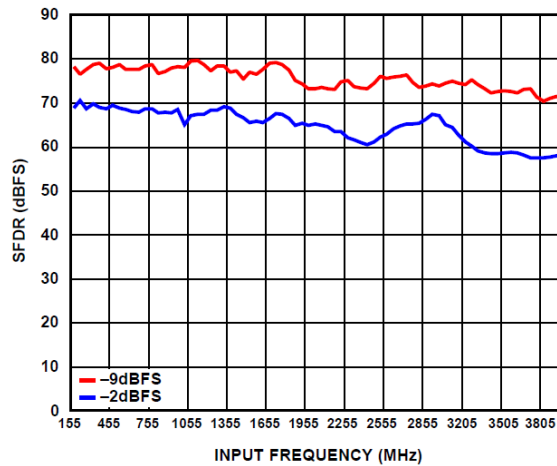

Figure 3 SFDR profile
- ◆ SFDR at max sample rate is >70 dB (See Figures 3,4,5)
- Typical Spurious Free Dynamic Range (SFDR): See Figure 3